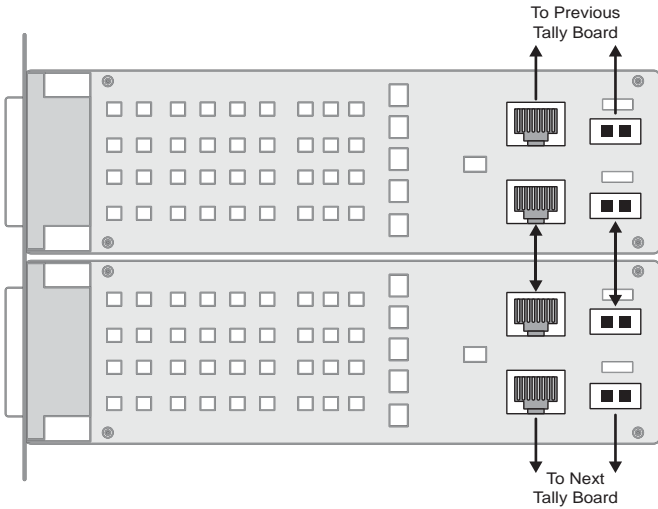

Figure 4 Tally Board — Tally Power Connectors
8. Connect and secure one end of the **Tally Interface Cable** to the Tally Board you are installing (**Figure 4**), and connect the other end to the previous Tally Board already installed in the control panel.
9. Connect and secure one end of the **Tally Power Cable** to the Tally Board you are installing (**Figure 4**), and connect the other end to the previous Tally Board already installed in the control panel.